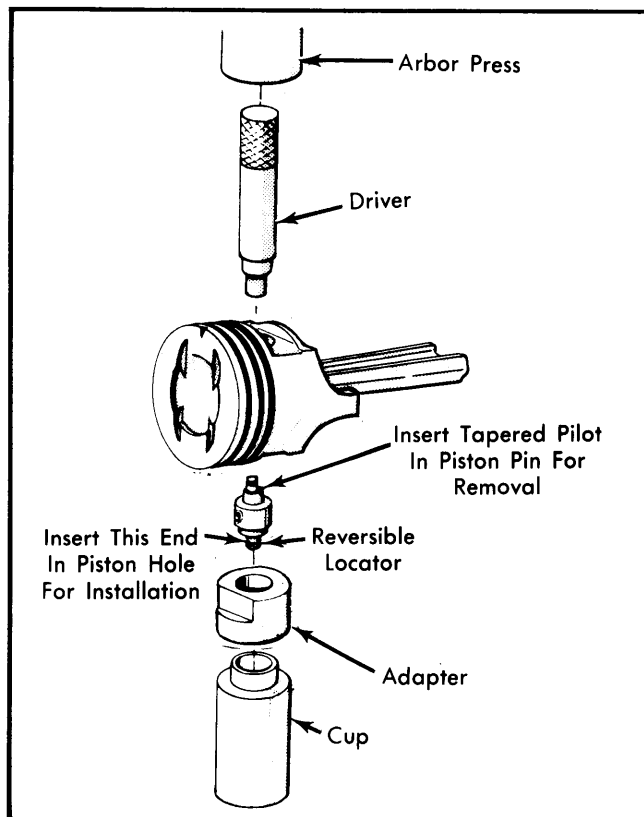

Fig. 7 Tool Set Up for Removal and Installation of Piston Pin
**Installation** — Light tap with mallet may be needed to start pin into piston and rod assembly. Using arbor press and suitable tool, press pin into piston and rod assembly until pin centers in piston. See Fig. 7.